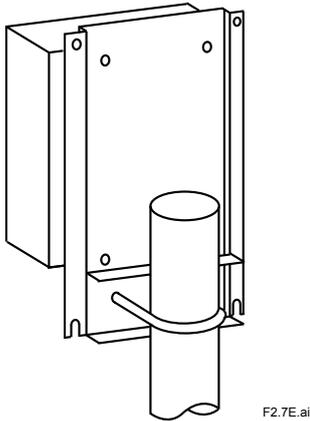

Figure 2.12 Pipe Mounting Status
- (1) Drill the mounting holes to the wall as shown in Figure 2.12.